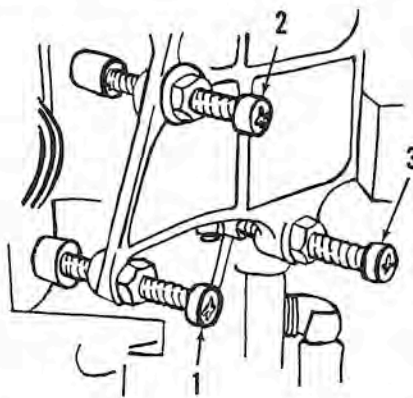

Fig. M87B — View of stop bracket showing location of throttle stop screws.
Move the speed control lever fully to "Fast" position and adjust the full throttle stop screw (2—Fig. M87B) to allow the throttle shaft 1/64-inch travel to full open position. Adjust the idle stop screw (3) to obtain an idle speed of 500 rpm in forward gear with motor at operating temperature.
With the advance timing position established, connect a continuity test light to the No. 1 Coil Primary (White) Lead on distributor models, or to primary ground terminal on magneto models. Attach the other test lead to a suitable ground. Rotate the magneto or distributor body clockwise until points are closed as indicated by continuity light, then counter-clockwise until points just open. Limit magneto or distributor advance at this point by means of the spark advance stop screw (1—Fig. M87B) on models so equipped; or by sliding magneto stop bracket against crankcase.